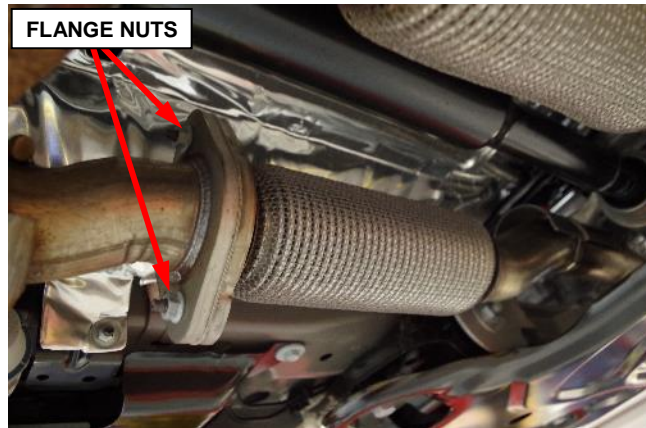

Figure 57 – Exhaust Crossunder Pipe
- a. Remove and **DISCARD** the rear crossunder pipe flange nuts securing the crossunder pipe to the Y-pipe (Figure 57).